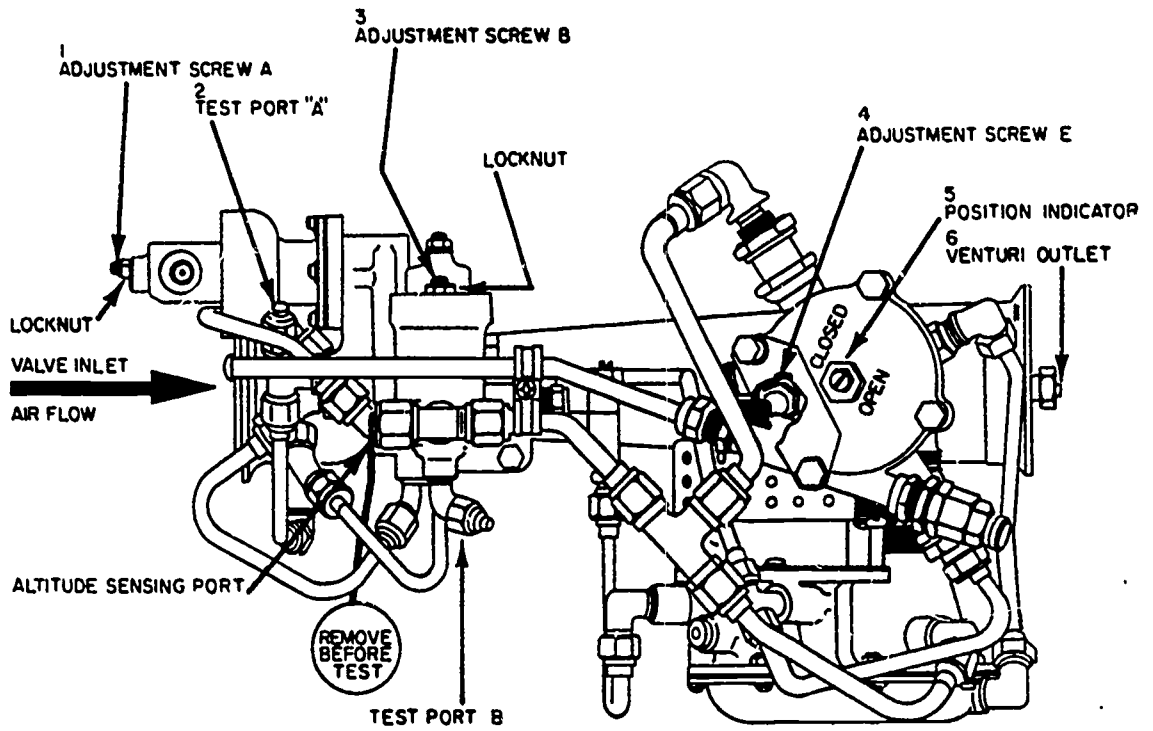

Figure 7A. Airflow Regulator
- d. _____ Take the cap from the altitude sensing port (refer to figure 7A).
2. The valve should have opened and closed with a minimum pressure of 10 psi. If not, adjustment to screw "E" would be made (figure 7A).